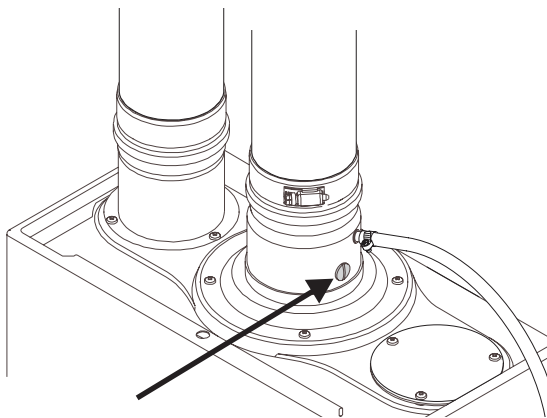

Fig. 42
- ▶ Turn ON/OFF switch to the OFF (O) position.
- ▶ Remove brass flat head screw on the exhaust collar as seen in Fig. 42.